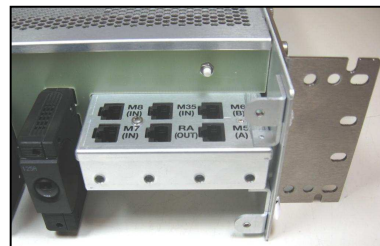

Fig. 15b – RAU installed
- Make sure the RAU's RJ45 connectors are facing up before attempting to insert RAU (see Fig. 15b, 15c).
- Hand-tighten RAU retaining screw (see fig. 15b and 15c).